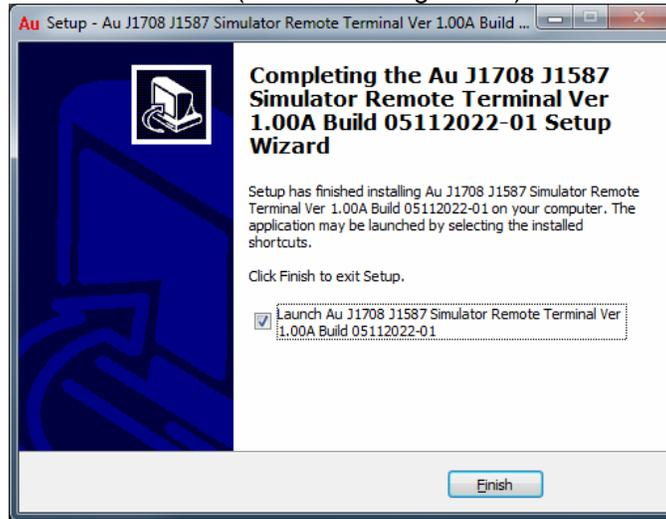

Figure 6-7
- 7. Check "Launch Au J1708 Simulator Remote Terminal Version 1.00A". Click "Finish" (Figure 6-7), Au J1708 Simulator Remote Terminal will be launched (as shown in Figure 3-1).